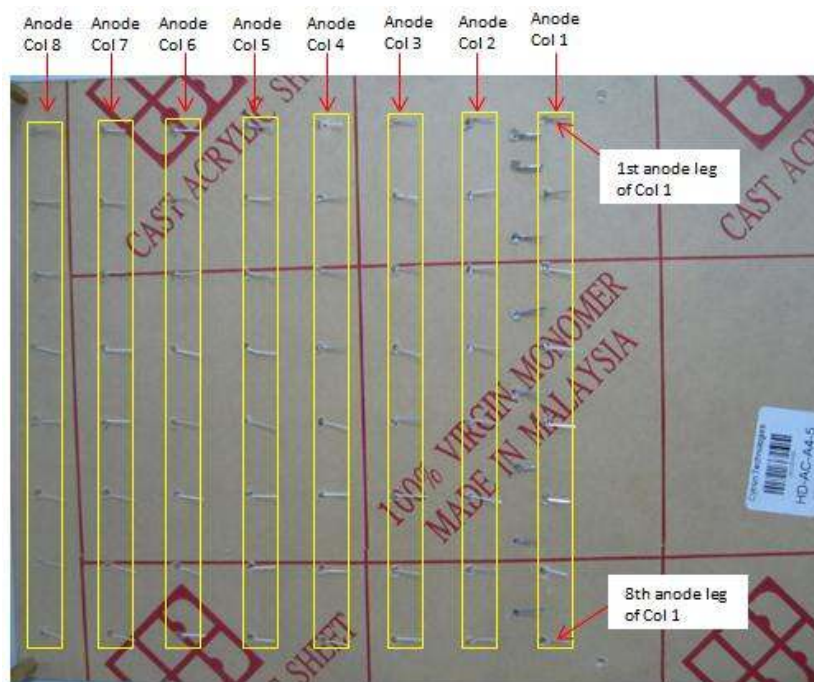

Figure 55: LED Cube anodes numbering
a) Let's do the numbering on the anodes of the LED Cube as shown in Figure 55.